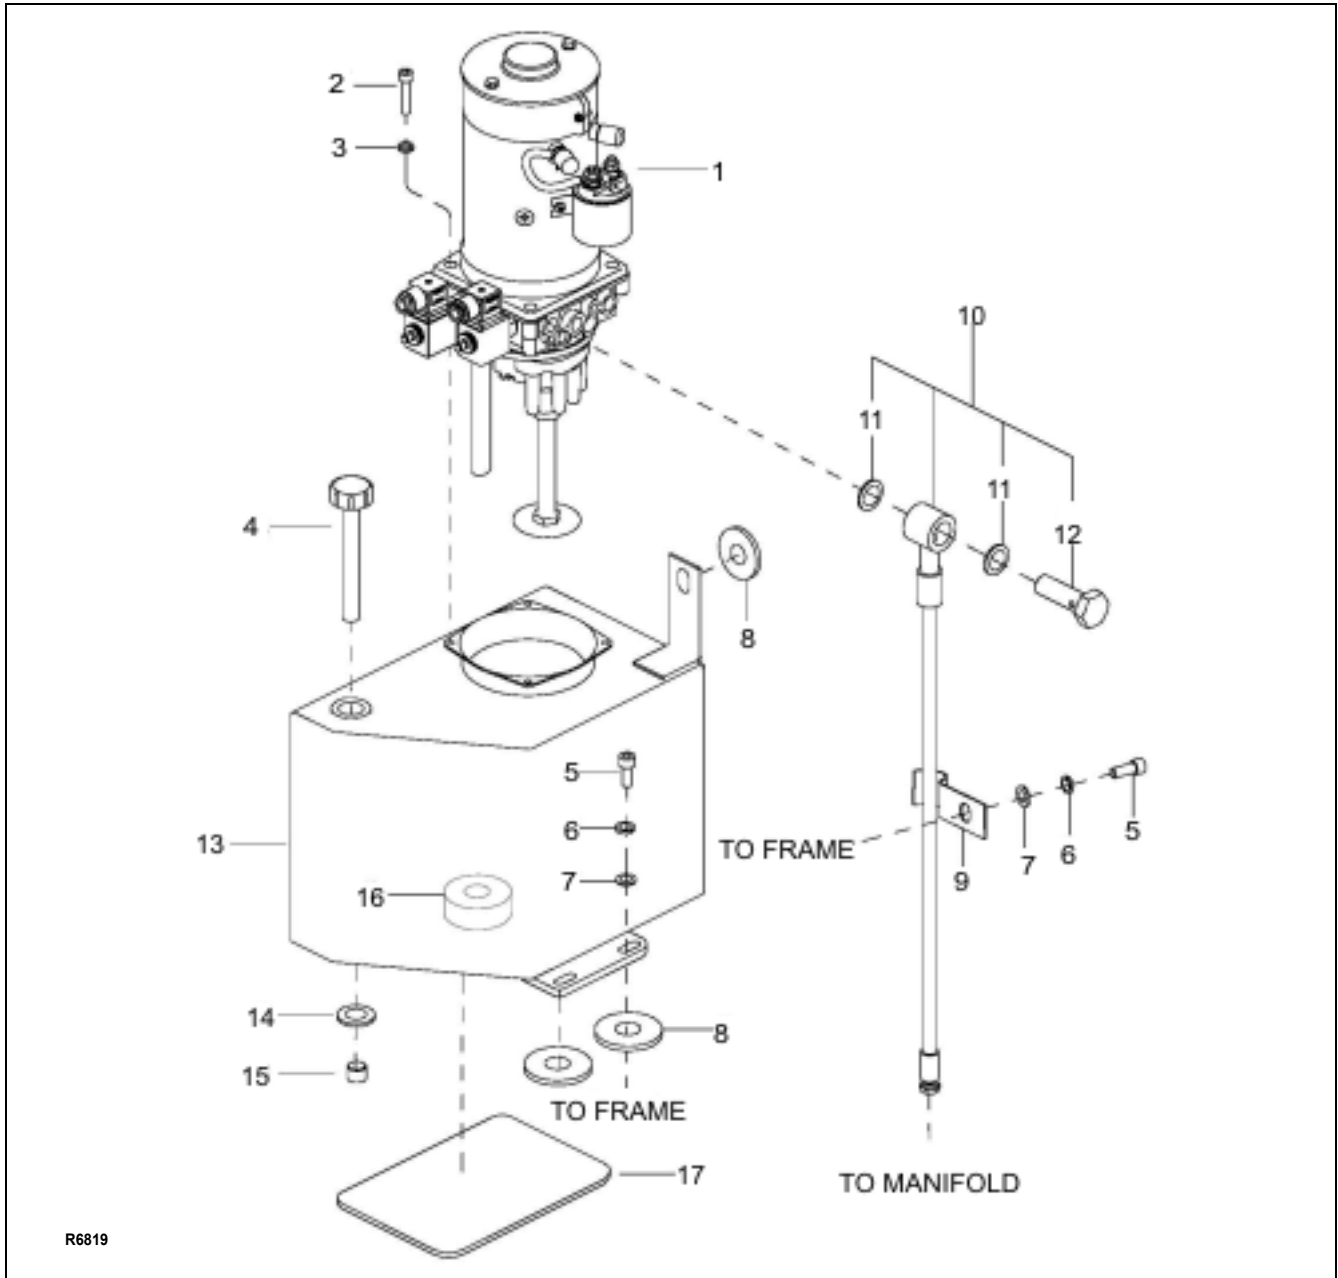

Figure 9-1 Hydraulic System
4. **Telescopic Trucks:** Refer to Figure 9-1, Figure 12-17 or Figure 12-18 and remove leaking line or fitting and replace it with a new line or fitting.
TRIMAST Trucks: Refer to Figure 9-1, Figure 12-19 or Figure 12-20 and remove leaking line or fitting and replace it with a new line or fitting.
4. Tag and disconnect electrical leads from motor and solenoid of pump/motor assembly (1, Figure 9-1).
- 3. While supporting the pump/motor assembly (1, Figure 9-1), install four screws (2) and four lock washers (3).
- 4. Reconnect hose (10) to pump/motor assembly (1).
- 5. Connect electrical leads to motor and solenoid of pump/motor assembly (1, Figure 9-1).